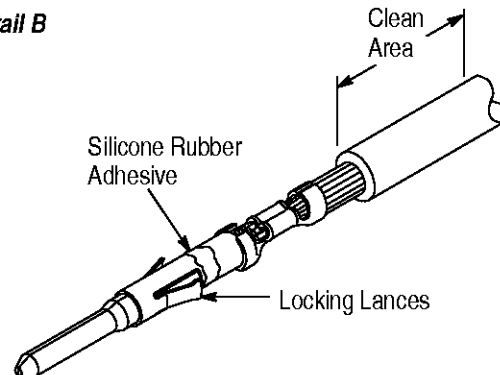

Figure 4
1. Roughen the inner surface of the potting area (at wire end of the receptacle housing) by abrasive blasting. Refer to Figure 4, Detail A. Clean abraded area thoroughly with alcohol, and allow to dry at 66°C [150°F] for 15 minutes.
2. Clean the wire insulation (of each crimped contact) thoroughly with alcohol, and allow to dry. See Figure 4, Detail B.
3. Apply an even bead of silicone rubber adhesive, such as RTV-314588, around each contact, including the ground contact, just behind the locking lances. Refer to Figure 4, Detail B.